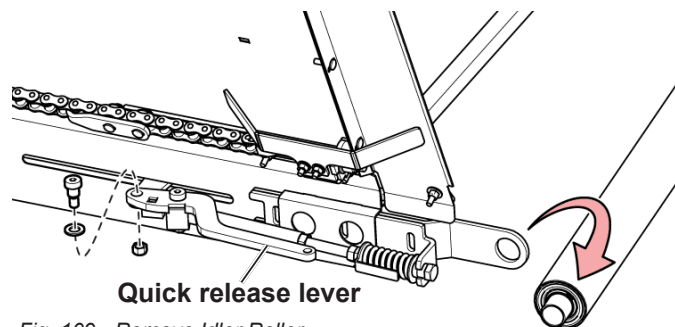

Fig. 109 - Remove Idler Roller
2. Remove the bolt securing the tensioner to the sway bar as shown in Fig. 109 on page 68. This will allow you to slide the tensioner assembly partially out of the c-channel far enough to remove the roller.